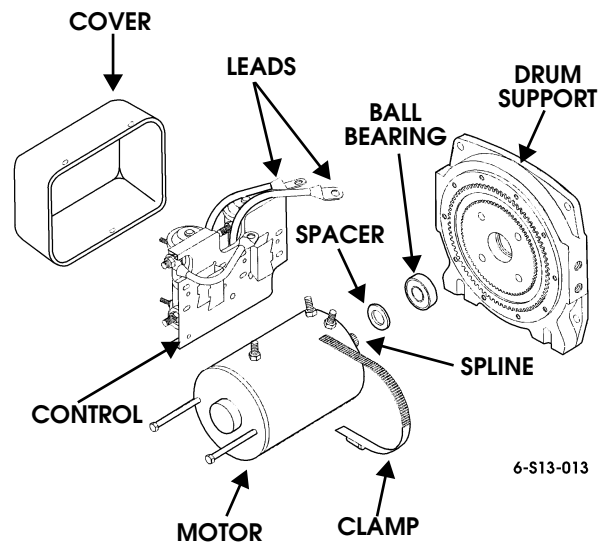

Figure 9-171: Motor and Control Unit
8. Inspect brake assembly for damage (Figure 9-171).
9. Inspect motor, spline, mating surface, and terminals for damage. Replace motor if damaged (Figure 9-171).